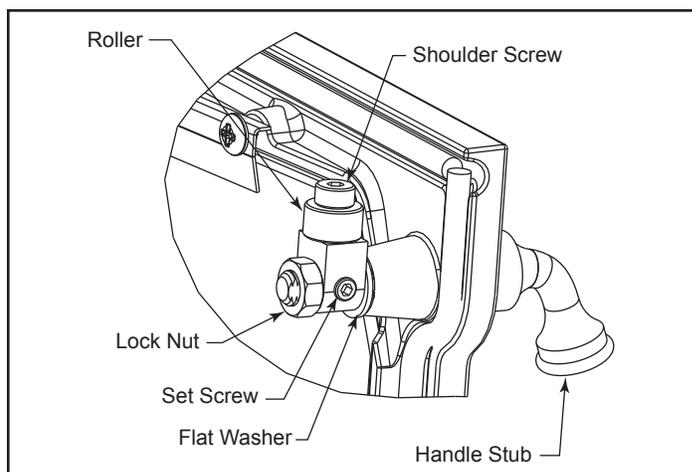

Figure 44 - Rotate pawl and/or remove flat washer to adjust latch.
1. Remove and retain the lock nut with a 9/16" wrench. (Figure 44)